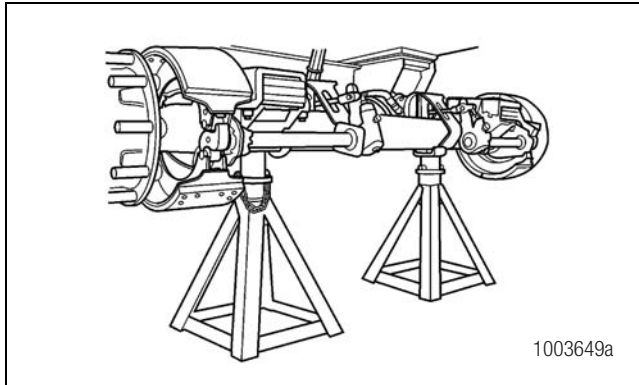

Figure 6.4
1. Raise the trailer until the tires are off the ground. Place safety stands under the trailer frame or under each trailer axle spring seat. Do not support the vehicle only by jacks. Figure 6.4.